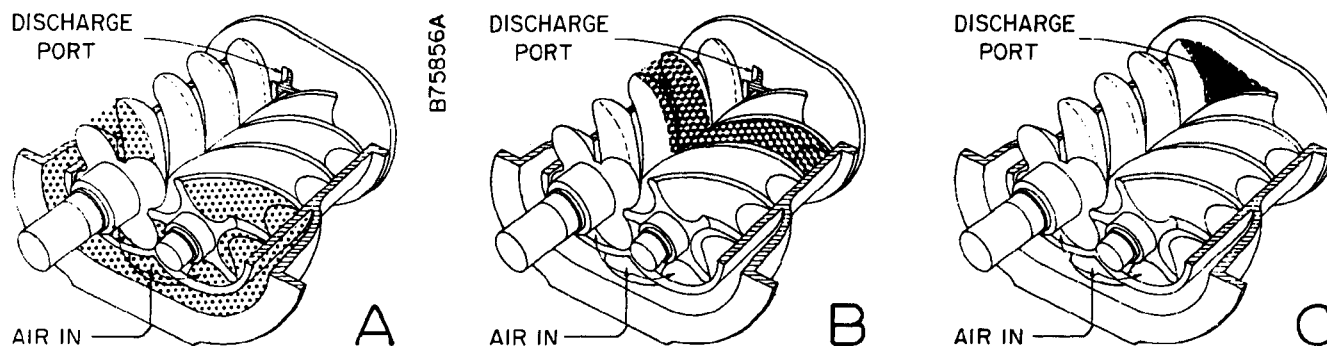

FIGURE 1-1 - COMPRESSION CYCLE
COMPRESSION PRINCIPLE (Figure 1-1) - Compression is accomplished by the main and secondary rotors synchronously meshing in a one-piece cylinder. The main rotor has four (4) helical lobes 90° apart. The secondary rotor has five (5) matching helical grooves 72° apart to allow meshing with main rotor lobes.
The air inlet port is located on top of the compressor near the center. The discharge port is near the bottom at the opposite end of the compressor cylinder. Figure 1-1 is an inverted view to show inlet and discharge ports. The compression cycle begins as rotors unmesh at the inlet port and air is drawn into the cavity between the main rotor lobes and secondary rotor grooves (A). When the rotors pass the inlet port cutoff, air is trapped in the interlobe cavity and flows axially with the meshing rotors (B). As the meshing continues, more of the main rotor lobe enters the secondary rotor groove, normal volume is reduced and pressure increases. Oil is injected into the cylinder to remove the heat of compression and seal internal clearances. Volume reduction and pressure in-